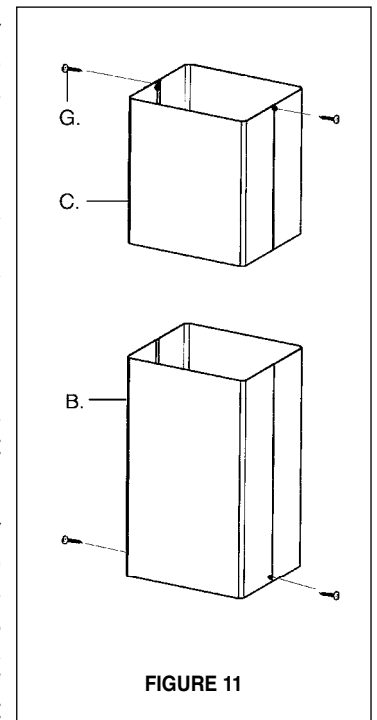

FIGURE 11
1. The UPPER CHIMNEY COVER (C in FIGURE 11) attaches using two screws provided (G in FIGURE 11). If using the **High Ceiling Chimney Kit**, use the UPPER CHIMNEY COVER supplied with the kit. Slide up and attach the UPPER CHIMNEY COVER.
3. The LOWER CHIMNEY COVER (B in FIGURE 11) attaches using two screws provided (G in FIGURE 11). Install the LOWER CHIMNEY COVER by sliding it up over the support and the UPPER CHIMNEY COVER.